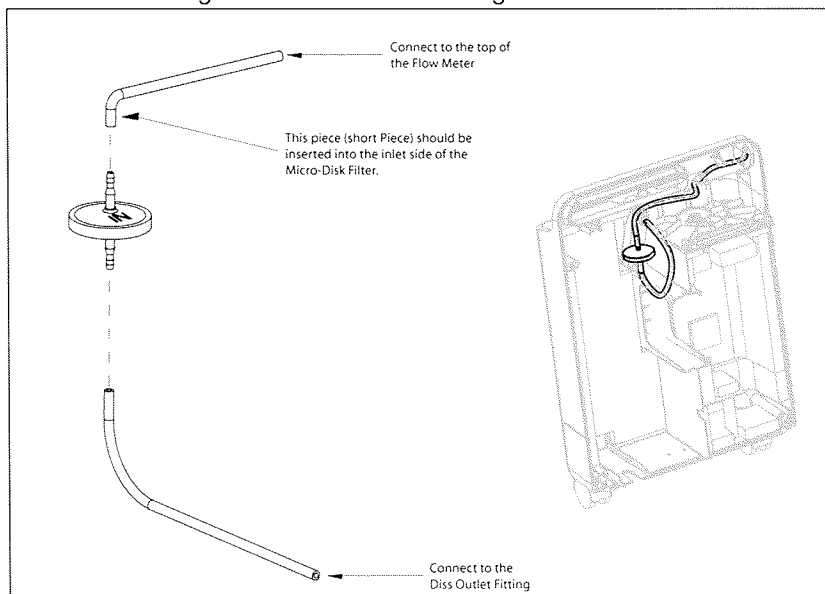

FIGURE 8-23: FLOW TUBING INSTALLATION
3. Connect the Flow Tubing as shown in Refer to Figure 8-23..